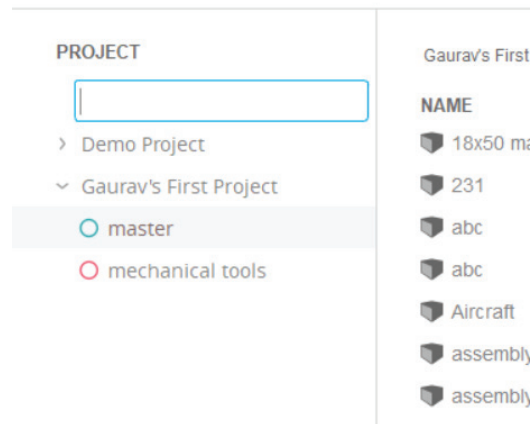

Figure-16. Specifying Project name
- By default, Demo Project is added in the Project list. To add a new project, click on the **New Project** button at the bottom left corner of the dialog box. You will be asked to specify name of the new project; refer to Figure-16.